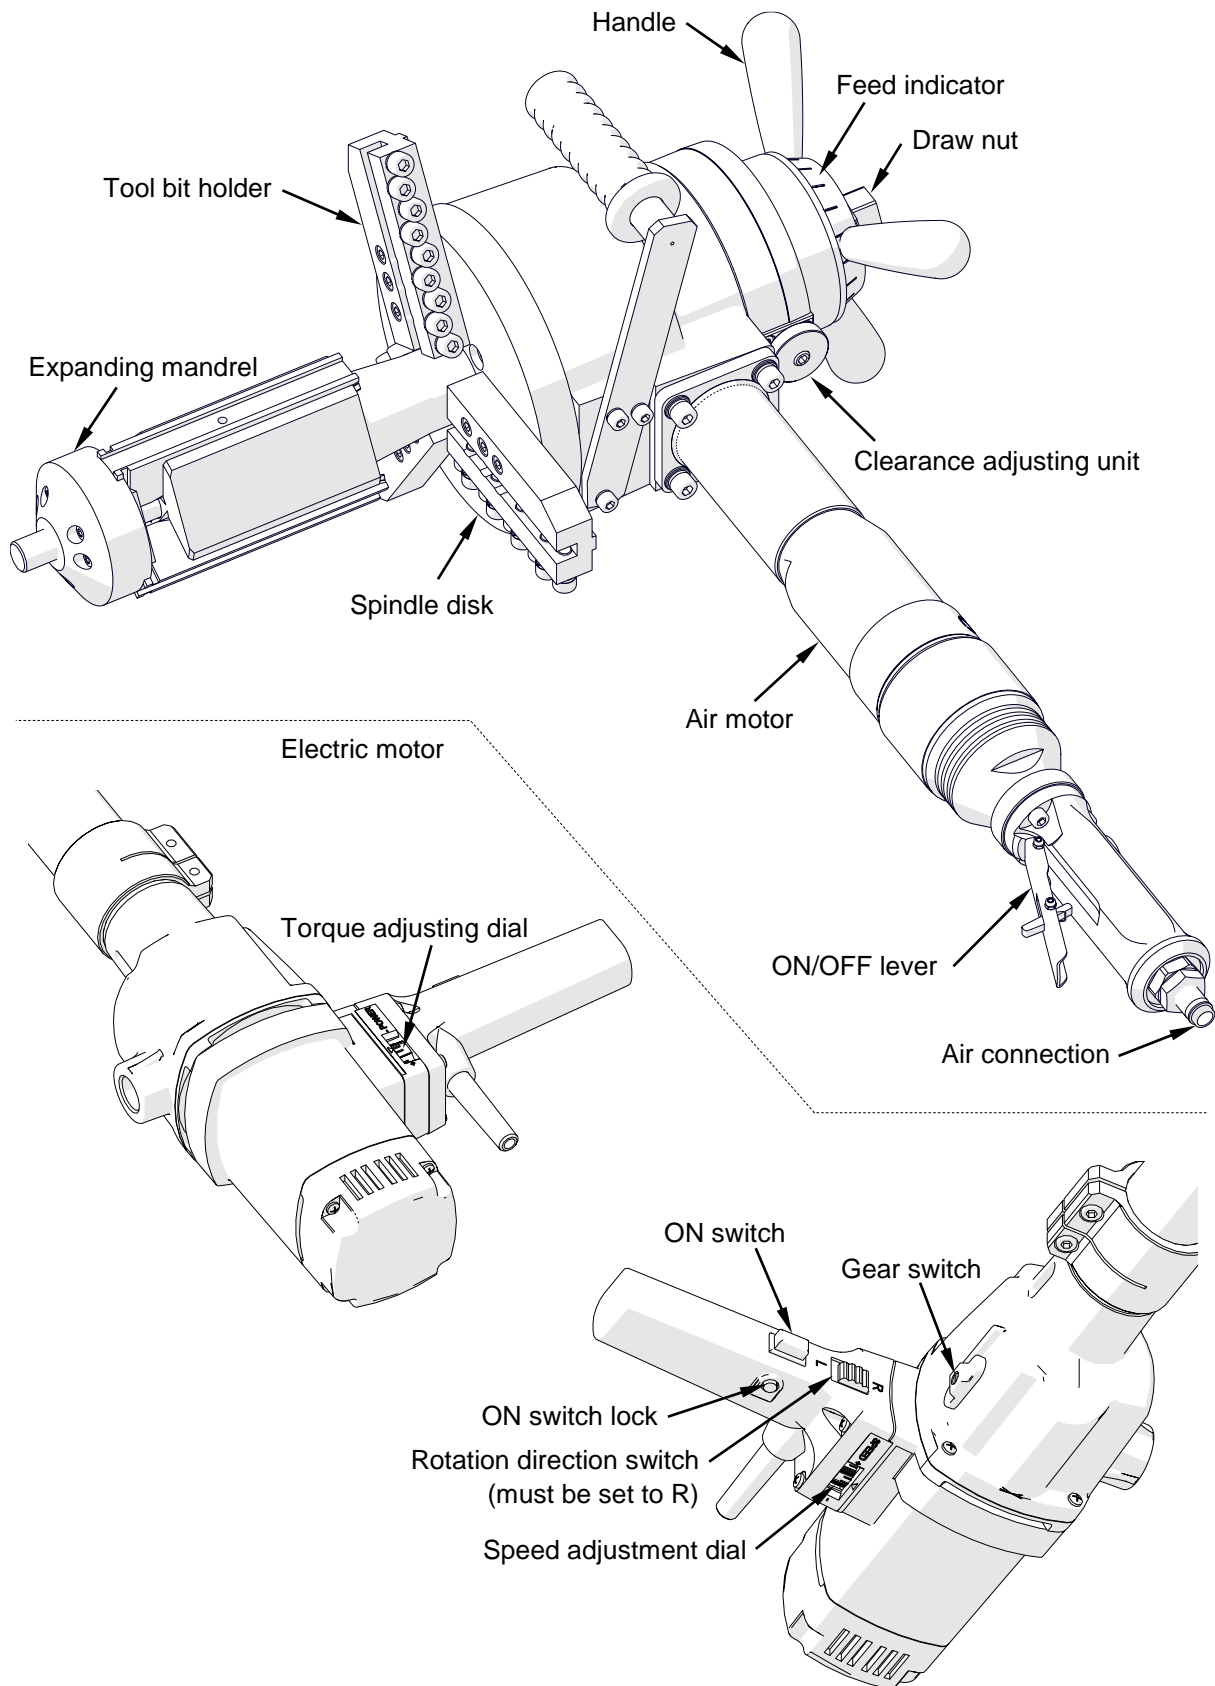

Fig. 1. View of the PRO 10 PB and of the PRO 10 PBE electric motor
To install electric motor, insert and press the MT3 arbor into the motor (4). Slide the clamping ring (5) onto the motor, and then insert the motor into the machine (6) by placing the arbor in the socket (2). Next, use the 6 mm hex wrench to tighten the clamping ring (7). Finally, set the rotation direction switch to the position R as shown in Fig. 1.